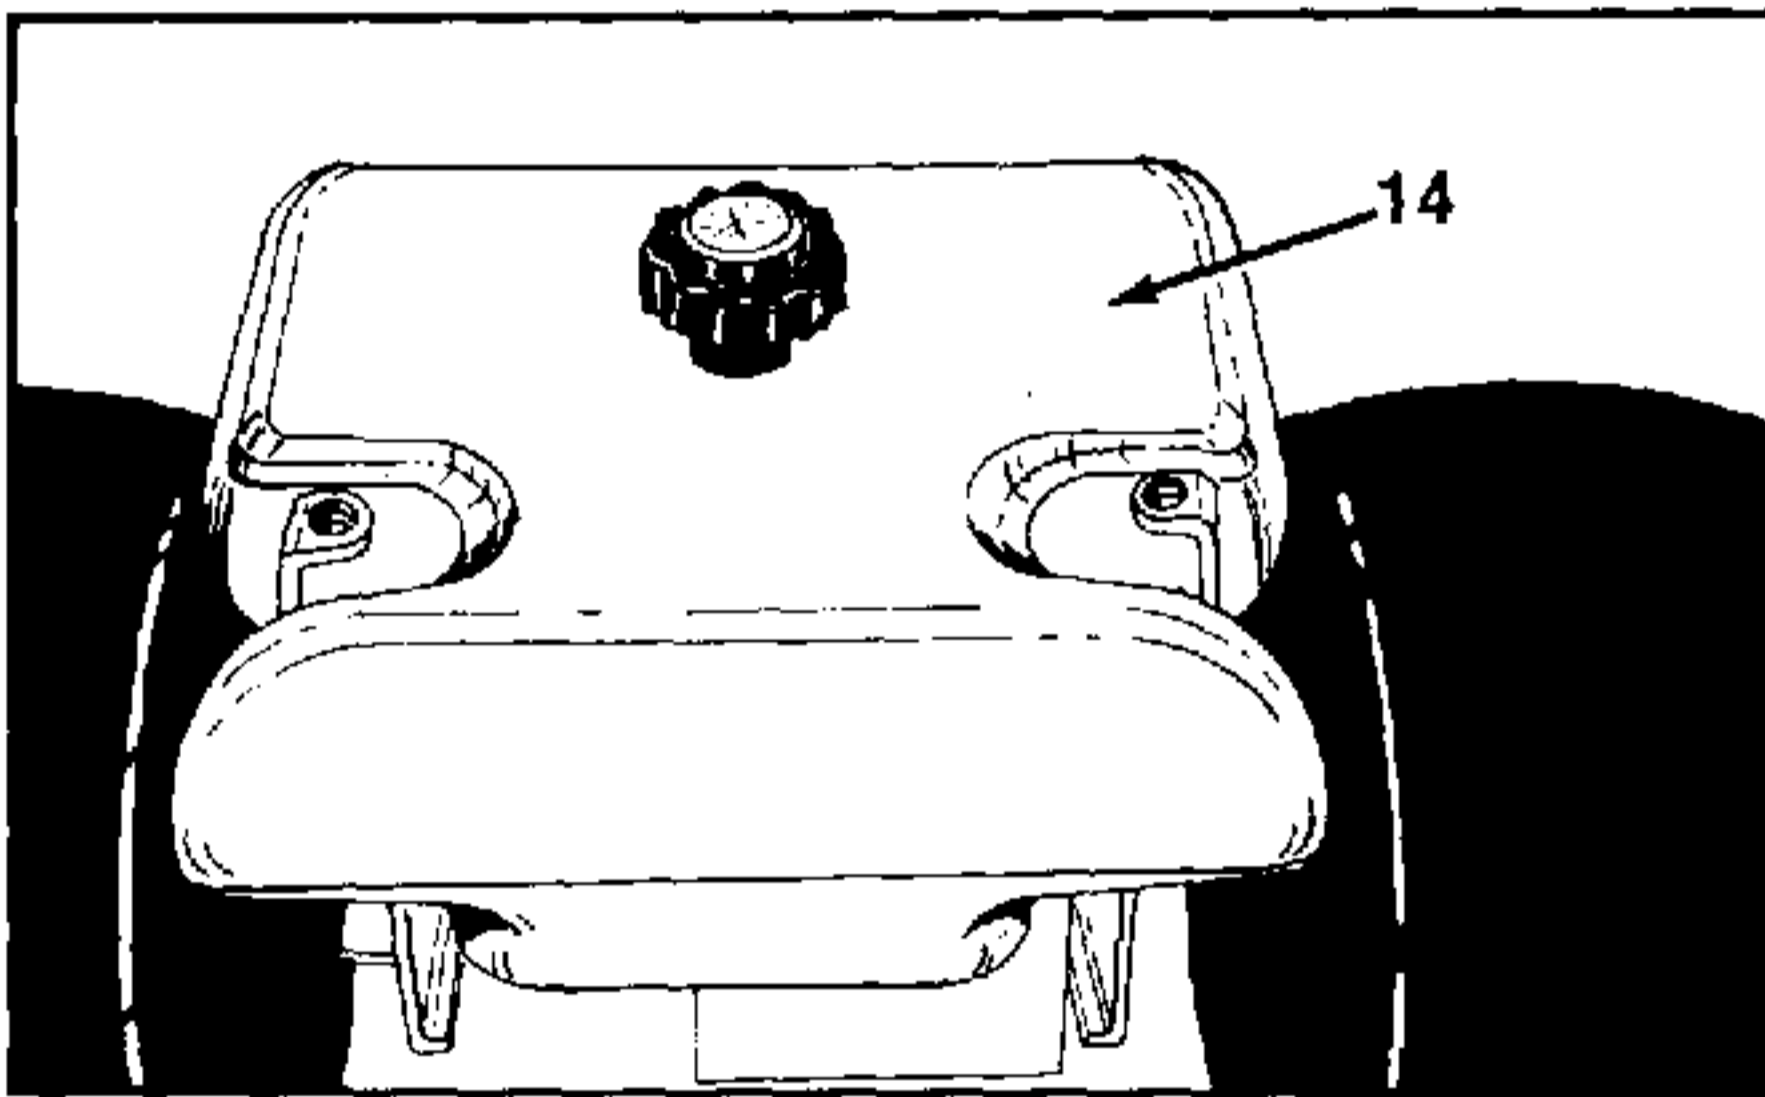

FIGURE 5.
9. Lift out the fuel tank (Ref. 14). See figure 5.